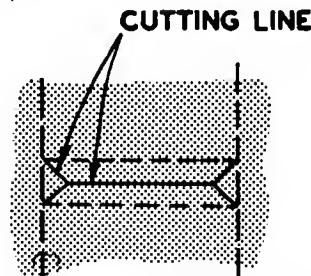

Fig. 135. Cutting the pocket mouthline.
- Cut along the center of the mouthline to within  $\frac{3}{8}$  in. from end (Fig. 135).